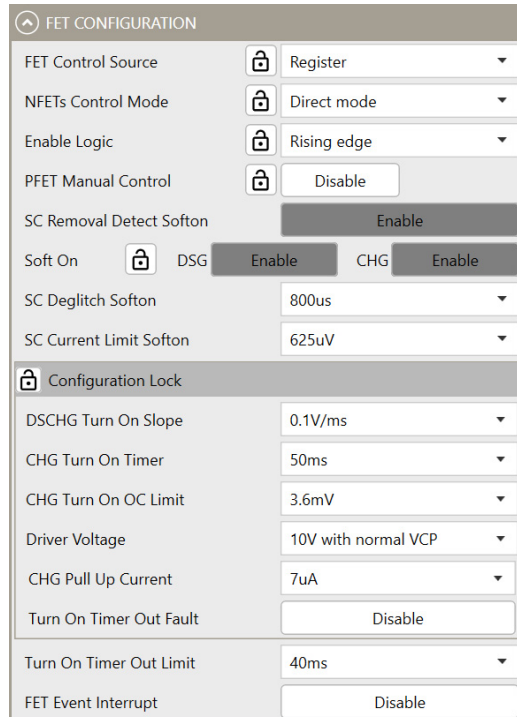

Figure 8: MOSFET Configurations
10. Figure 8 shows how to configure the MOSFET parameters.